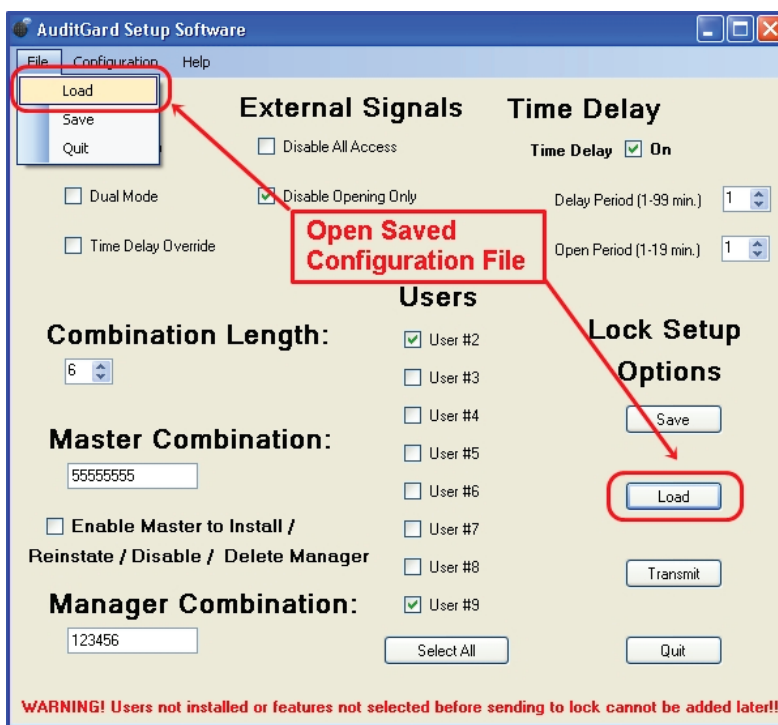

Figure 20
1. Click the **Load** button or select Load from the File menu on the Menu bar (Figure 20).